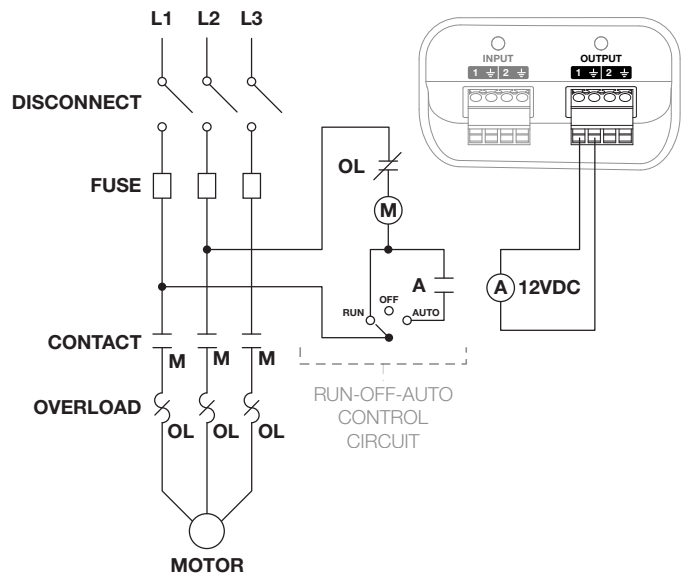

Figure 2.
- Figure 2 shows a typical RUN-OFF-AUTO control circuit controlled with a C3 in when in AUTO mode. Relay A is added as shown to allow remote control. In this case, Relay Coil A is energized continuously by the C3 (not pulsed) when the motor is running.